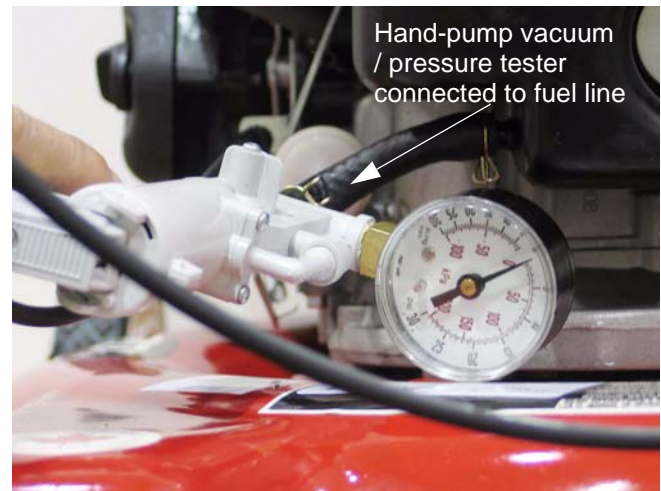

Figure 4.4
1. A hand-pumped vacuum / pressure tester may be connected to the fuel barb (after draining). See Figure 4.4.